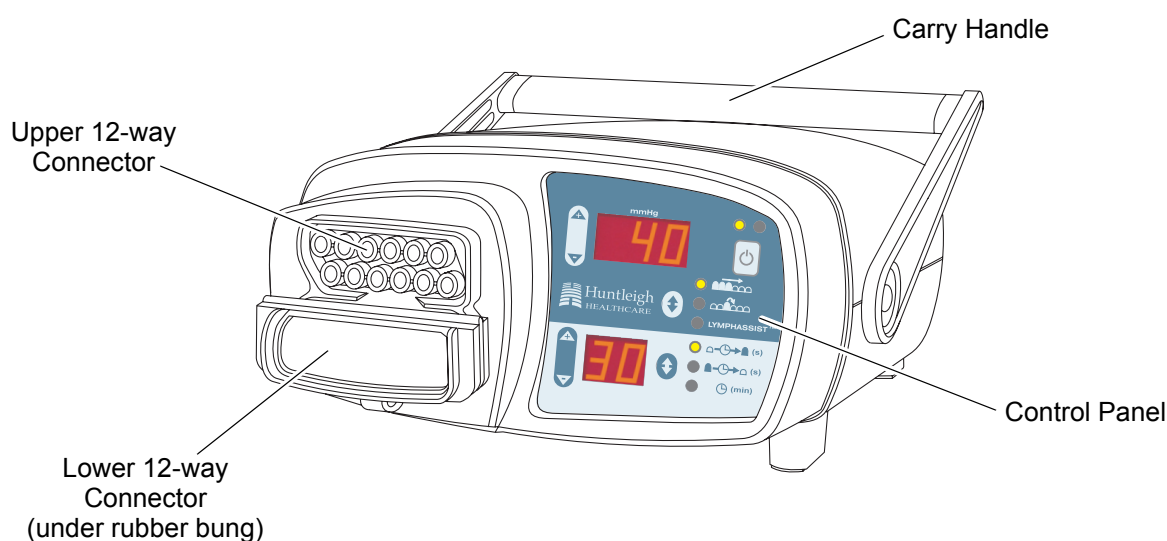

Figure 1 - Pump
Pump (refer to Figure 1)
- If only one garment is used, it must be connected to the upper connector and the rubber bung must be securely fitted to the lower connector (folded as shown in Figure 1).